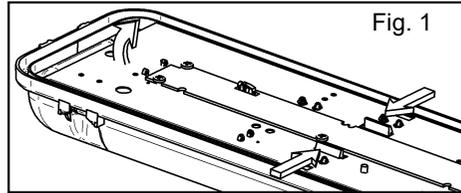

Fig. 1
2. Remove the gear tray from the housing by squeezing the plastic clips together at both ends. (Fig.1)